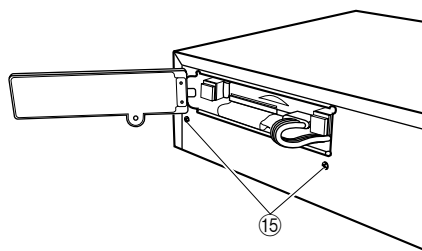

Fig. 17
- Remove 2 screws (15). (Fig. 17)